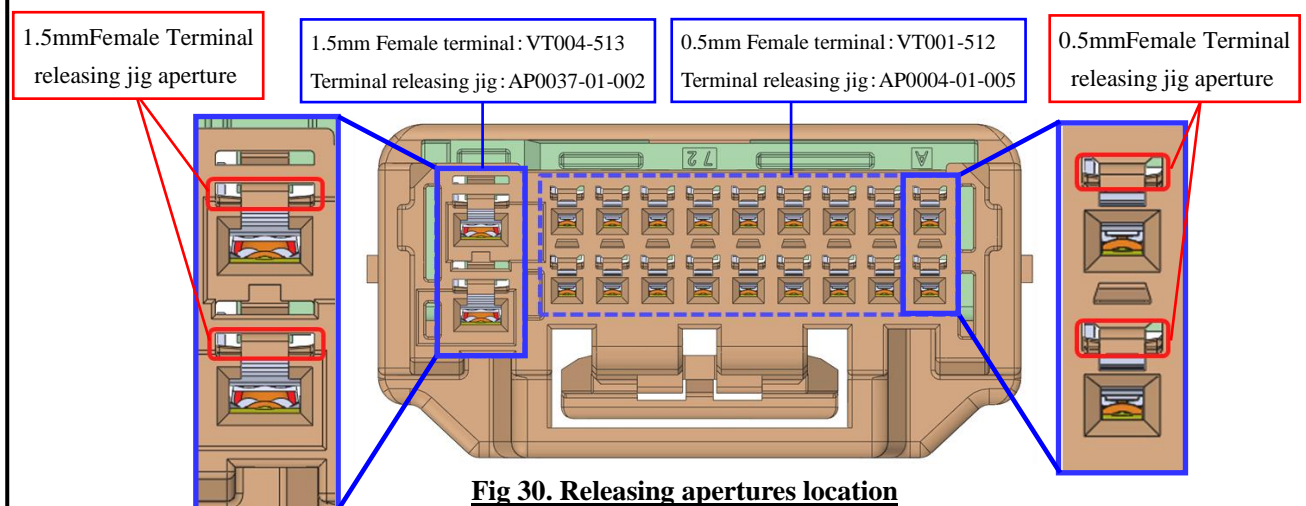

Fig 30. Releasing apertures location
- ⑥ Care must be taken not to damage edge of the jig (e.g. from dropping, etc.)
- ⑦ Use appropriate jig to release terminal from the female housing. (see Fig.30)